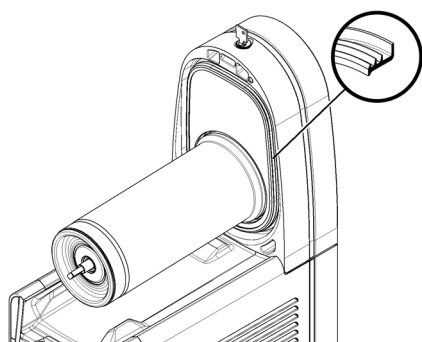

figure 17
- 4 Replace the container gasket. N.B. the rim with the greater diameter must be rested on the rear wall (see figure 17).